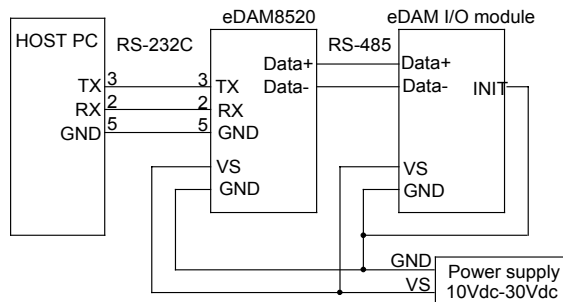

Figure 4.1
2. Connect a brand new eDAM module with the RS-485. Set the module in *Default State* by shorting the **INIT*** pin to GND. Refer to Figure 4.1 for detailed wiring.